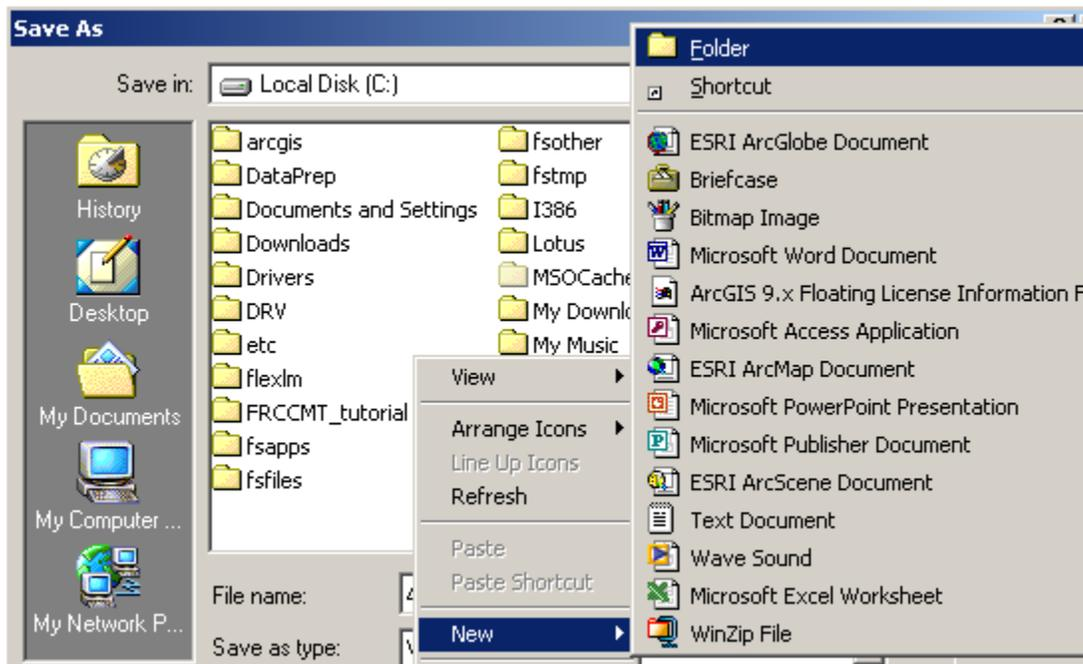

Figure 4-3. Create new folder.
9. In the *Save As* dialog box, navigate to a location of your choice, right-click in the white space in the dialog box and select **New > Folder** (fig. 4-3).